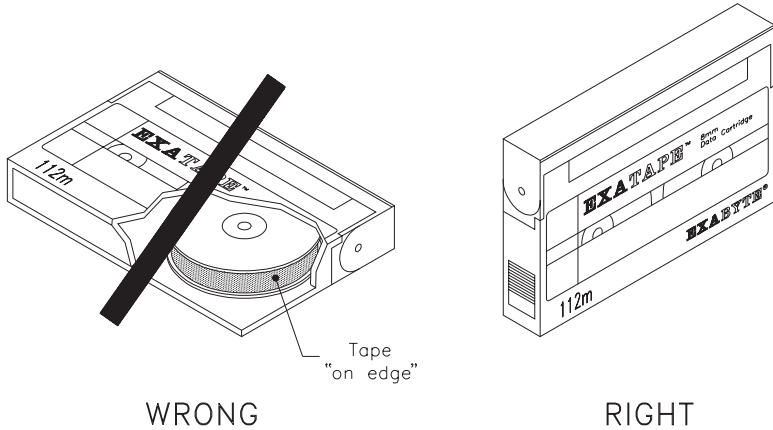

Figure 11 Do not store a data cartridge on its side
- Store each cartridge on one of its long edges, not flat on its side (see Figure 11 on the following page). When a data cartridge is stored on its side, the tape inside the cartridge is actually on its edge. In this position, stress is placed on the tape edges and can lead to tape damage. For the same reason, never stack cartridges on top of each other or lean them at an angle for extended periods of time.